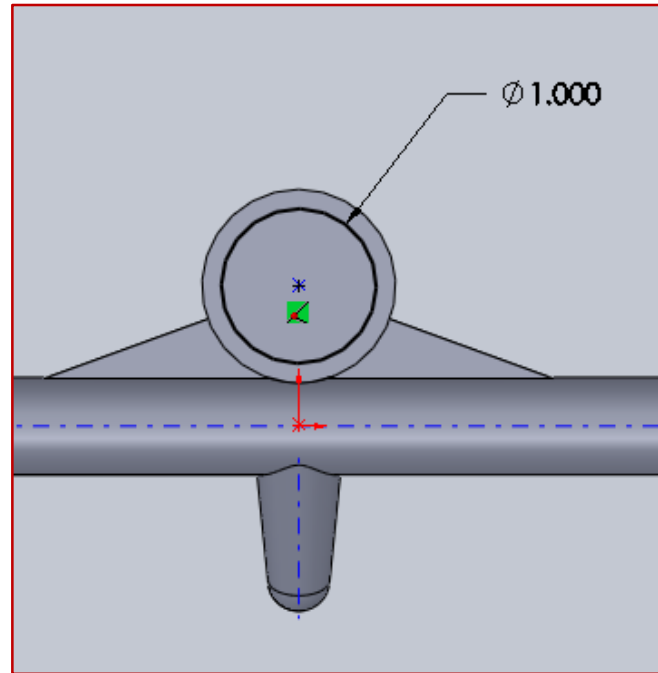

Figure 7.9 – Sketch for Pocket
- ✓ Sketch a circle 1 inch in diameter as shown in Figure 7.9.